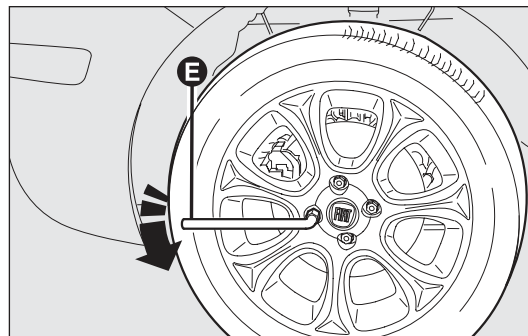

fig. 146
- ☐ loosen the bolts of the wheel to be replaced by about one turn with the wrench provided E-fig. 146; if you have alloy wheels, rock the car to make it easier to separate the rim from the wheel hub;